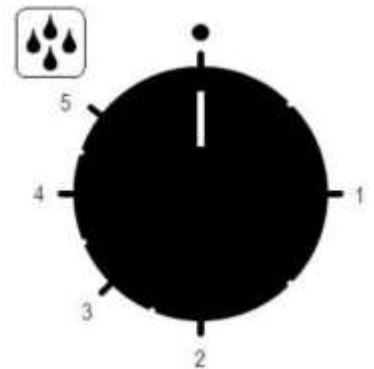

Fig.5
**Programming vapour quantity** - To generate vapour while the oven is in operation (cooking compartment hot), turn the knob of the automatic humidifier (Fig. 5) in line with the required value (from 1 to 5). If you turn the knob to position • (OFF) the humidifier will stop operating.